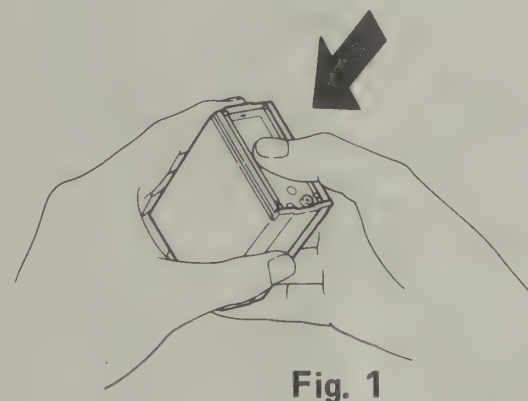

Fig. 1
1. Push and hold the sides of the BP-4 BATTERY CASE and push down on the top aluminum panel. (Fig. 1)